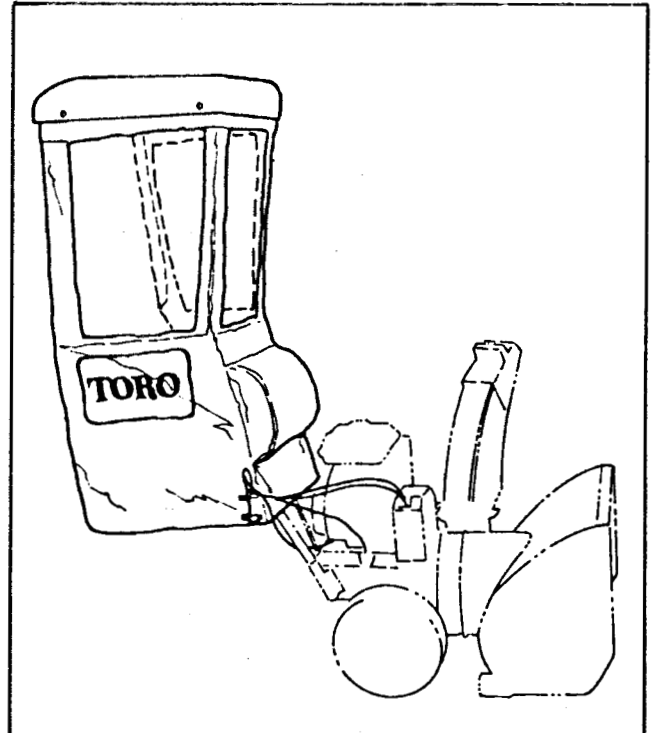

Figure 132
The snow cab protects the operator from wind and blowing snow while snowthrowing. It mounts to the handles of Power Shift Snowthrowers. Construction is of a metal frame and vinyl shell. Two cab kits were available at the time this manual was published: part numbers 66-6200 and 68-9500. The two kits are identical with the exception of the tops. 66-6200 uses a vinyl top while 68-9500 uses a rigid plastic top. See Figure 132.
1. Remove the rear fasteners securing the cab frame to the attaching bracket base. See Figure 132. Tip the cab forward so that it balances.